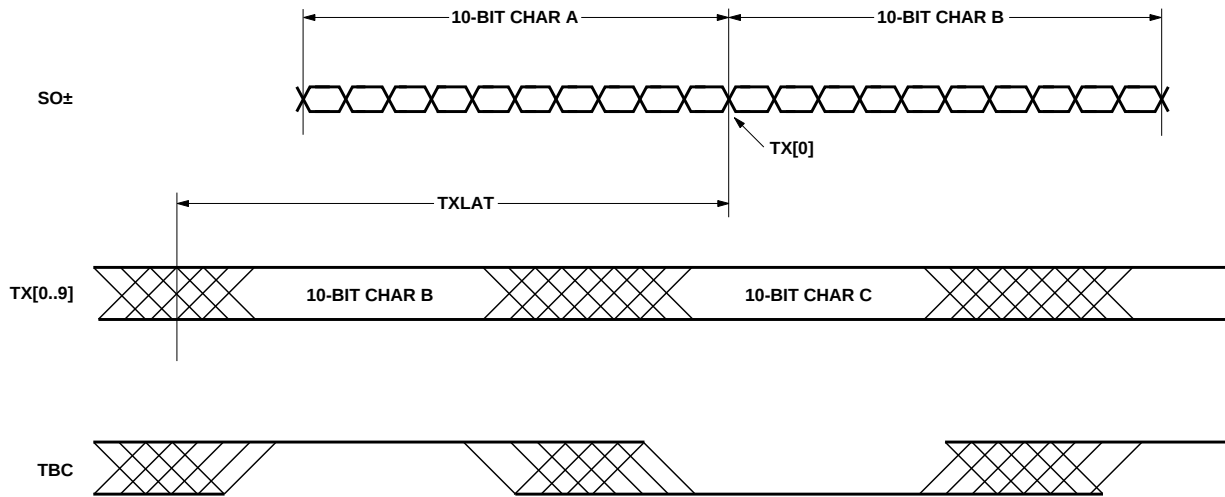

Figure 4. Transmitter latency. TX[0] is first bit on $SO_{\pm}$.
1. The transmitter latency, as shown in Figure 4, is defined as the time between the leading edge of a parallel data word and the leading edge of the first transmitted serial output bit of that data word.